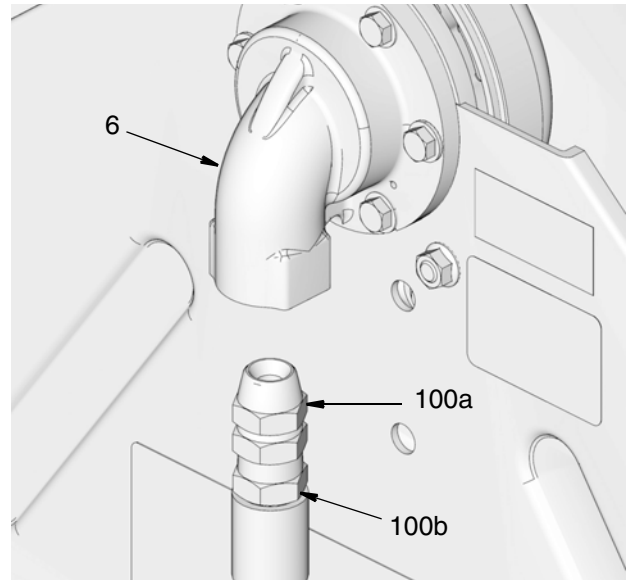

FIG. 50
- If union adapter (100a) is not installed on inlet (6), apply pipe thread sealant or wrap PTFE tape around the threads of a union adapter (100a) and install union adapter on inlet (FIG. 50).
- Apply pipe thread sealant or wrap PTFE tape around the threads (6) of inlet hose (100b) (if needed).